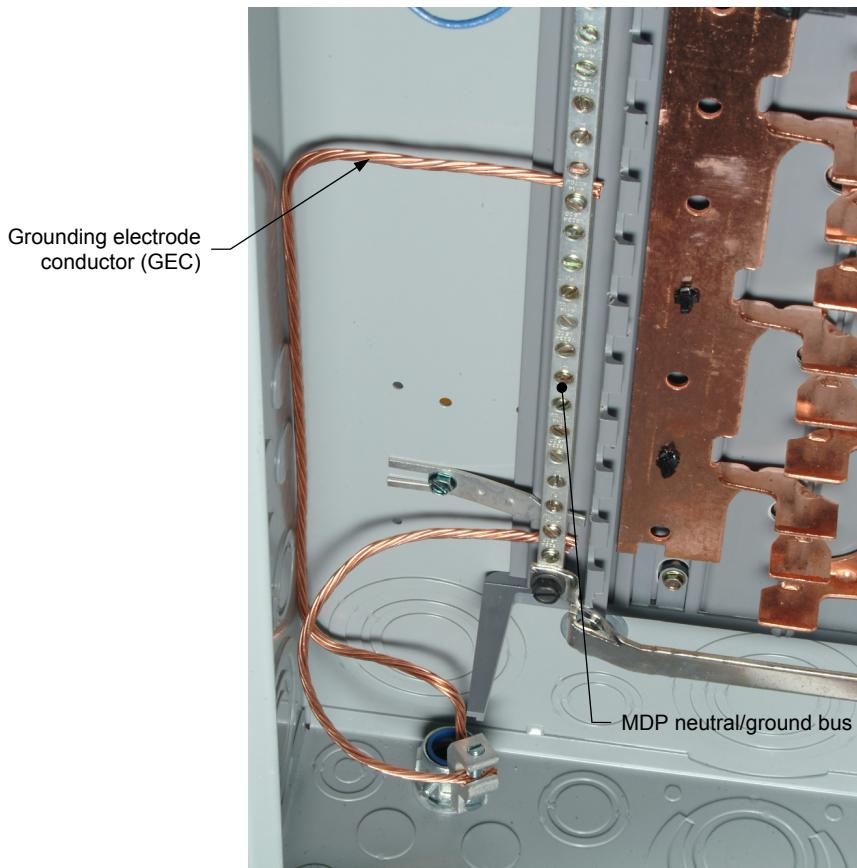

Figure 18. GEC connected to the MDP neutral/ground bus.
7. Connect the GEC to the MDP neutral/ground bus, as shown in Figure 18 and tighten the setscrew.
- The grounding electrode conductor (GEC) is connected to the MDP neutral/ground bus, as shown in Figure 18. The corresponding setscrew on the MDP neutral/ground bus is well-tightened to ensure a solid connection of the GEC.